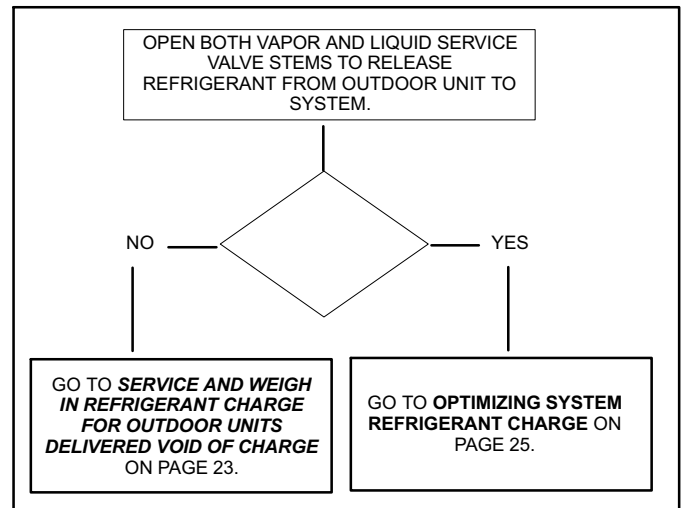

Figure 18. Outdoor Unit Factory Charge
7. Use figure 18 to determine next step in system preparation.